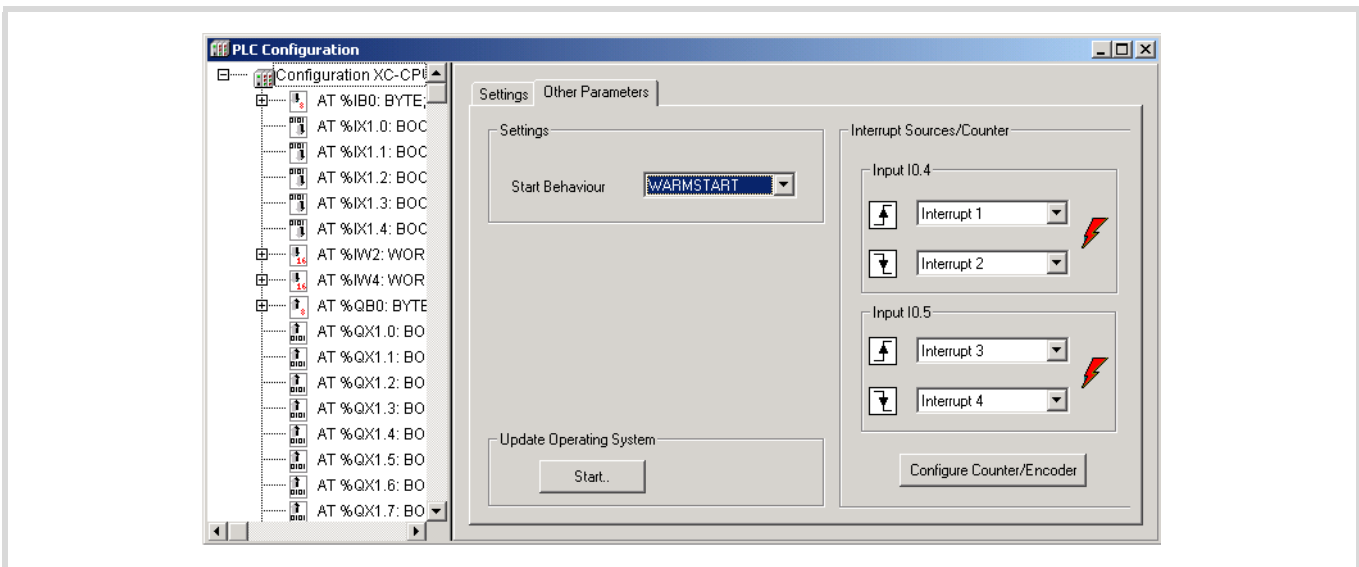

Figure 24: Updating the operating system (OS) of the XC200
- ▶ Activate the "Other Parameters" tab in the "PLC Configuration" window and click on the → figure 24 "Start" button.